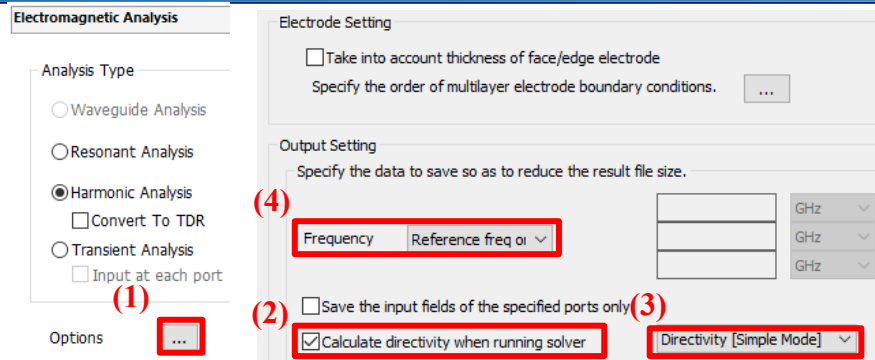

Fig. 1 The [Options] button on the Electromagnetic Analysis tab and the [Options for Electromagnetic Analysis] dialog box.
1. Starting from the Electromagnetic Analysis tab, set the parameters for directivity according to Fig. 1